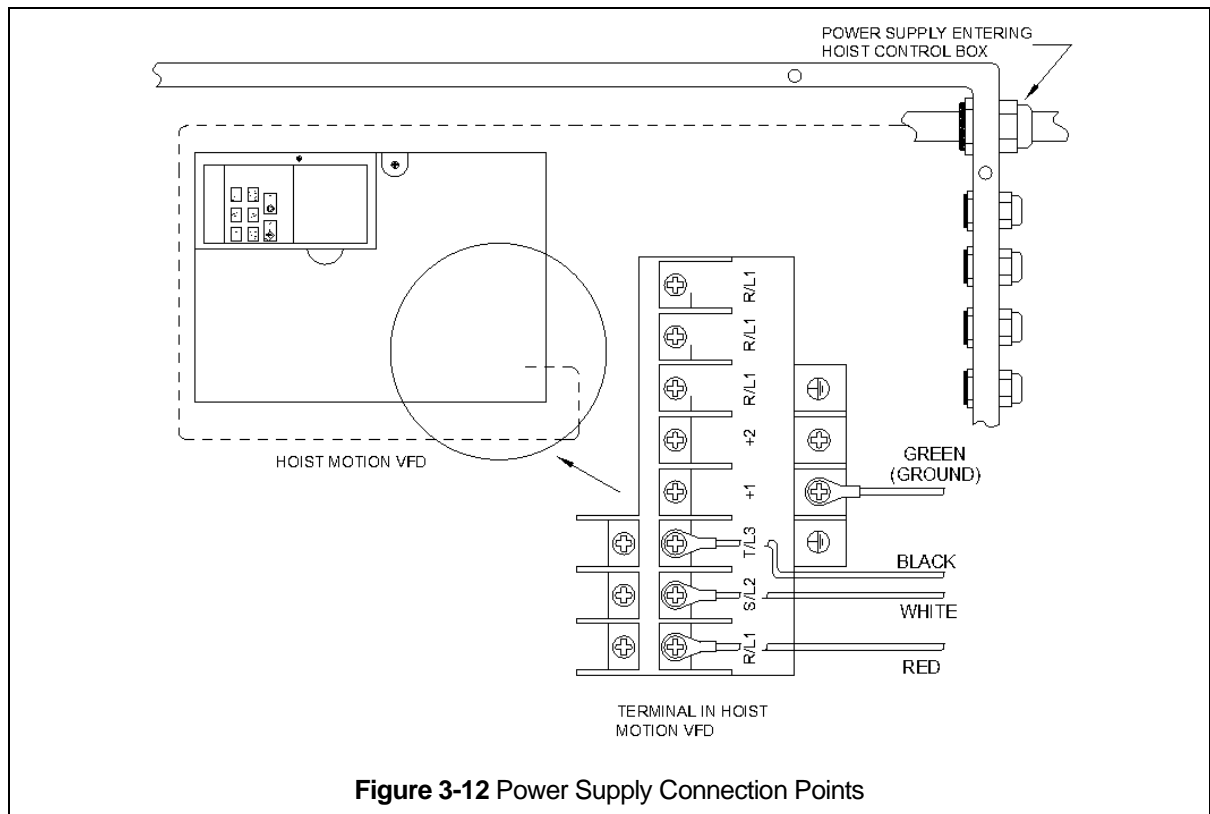

Figure 3-12 Power Supply Connection Points
- 1) Refer to **Figure 3-12** and the wiring diagram provided with the Hoist.
- 3) Multiple cable fittings/clamps are available for use on both sides of the Control Panel for the Power Supply Cord. Loosen the selected cable fitting/clamp and insert the Power Supply Cable. Pull through enough cable to reach the power supply terminal and securely tighten the cable fitting as shown in **Figure 3-12**.
- 5) Connect the 3 phase power leads (L1, L2 and L3) and the ground lead of the Power Supply Cable to the power supply terminals, Red, White, Black and Green/Yellow (ground). Make sure the terminals are securely tightened and each lead is completely isolated as shown in **Figure 3-12**.